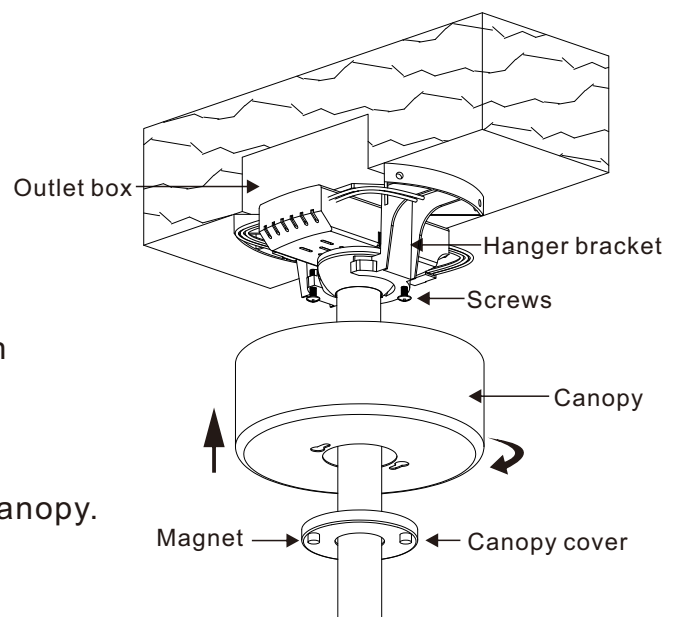

Figure 19
Step 2. Loosen the two screws on the bracket. Slide the canopy up to hanger bracket and place the key hole on the canopy over the screw on the hanger bracket, turn canopy until it locks in place at the narrow section of the key holes then tighten the two screws.(Fig.19)